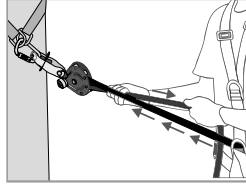
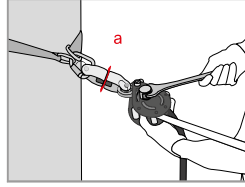

Fig 3
Fig 4
Once the lifeline is installed, a pre-adjustment of the tension must be made by pulling manually on the rope (knot end side —Fig. 3). Automatically, the cam (8) and the cam lever (4) must come into contact with the rope. Close the cam lever (4), then, using an appropriate wrench, apply tension on the tension adjustment bolt (1) until the tension indicator washer (a) placed on the tension indicator (2) turns freely (Fig. 4). Once this washer moves freely, STOP TIGHTENING! This corresponds to a pre-tensioning on the line of approximately 0.5 kN. During use, regularly check this tension (rotation of the tension indicator washer) and adjust if necessary, as explained above.